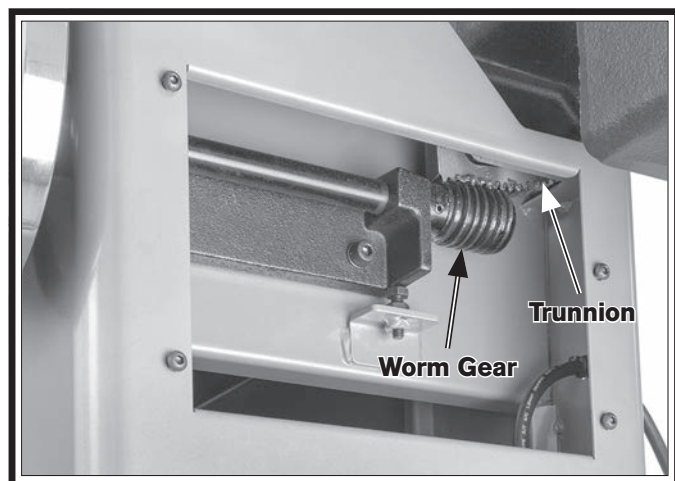

Figure 50. Location of platen tilt trunnion and worm gear.
4. Clean platen tilt trunnion and worm gear teeth (see **Figure 50**) with brush and mineral spirits to remove grime and old lubrication.